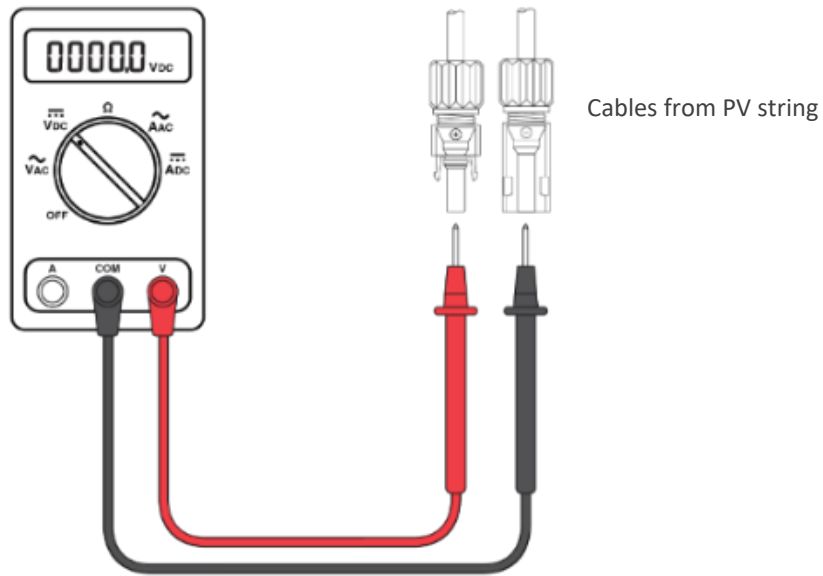

Figure 13: Check the polarity and gender for PV string
7. Follow your procedures and safety protocols to measure the voltage and verify the polarity for the string of modules being connected to Input 2. See Figure 13.